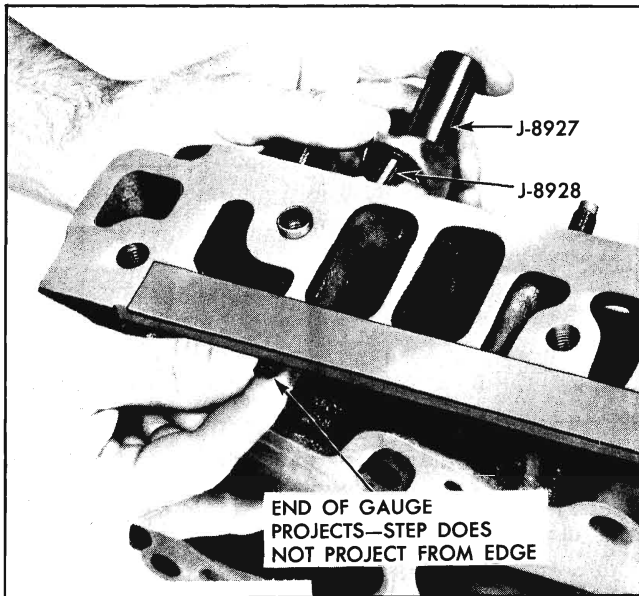

Fig. 6-31 Checking Stud Height
NOTE: It will be necessary to clamp a straight edge along the edge of the cylinder head as shown in Fig. 6-31 to simulate this gasket surface.
a. Position rocker arm on stud and hold in place using Rocker Arm Stud Installer J-8927. Slip valve into place and hold it against valve seat. While holding rocker arm and valve in position securely, insert Valve Train Gauge through push rod hole and seat snugly in push rod seat of rocker arm (Fig. 6-31). With all parts seated, step end of gauge should be at least flush with gasket face of head, but should not project past the step on the gauge.